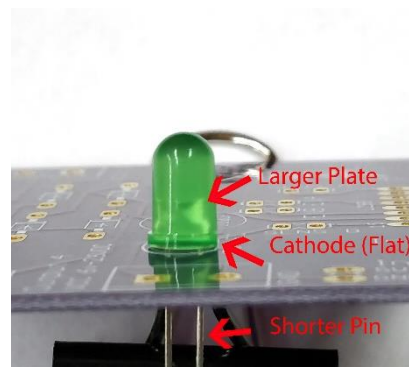

Figure S2
4. Please Pay attention to the marking on the board for the LED. The layout in white shows a flat side to the round LED body. This Flat side is the negative pin (Cathode) for the LED. *(See figure S2)*